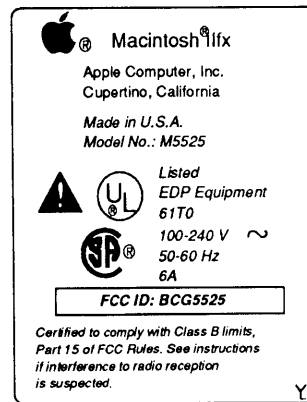

Figure 5-6
7. Install the identification decal on the bottom cover as shown in **Figure 5-6**.